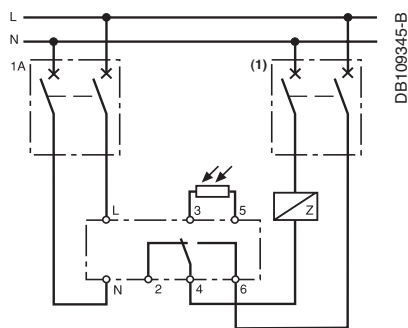

Abb. 3
- Strom ≤ 10 A, cos φ = 1 (Abb. 3)
- Strom ≤ 16 A, cos φ = 1 (Abb. 3)